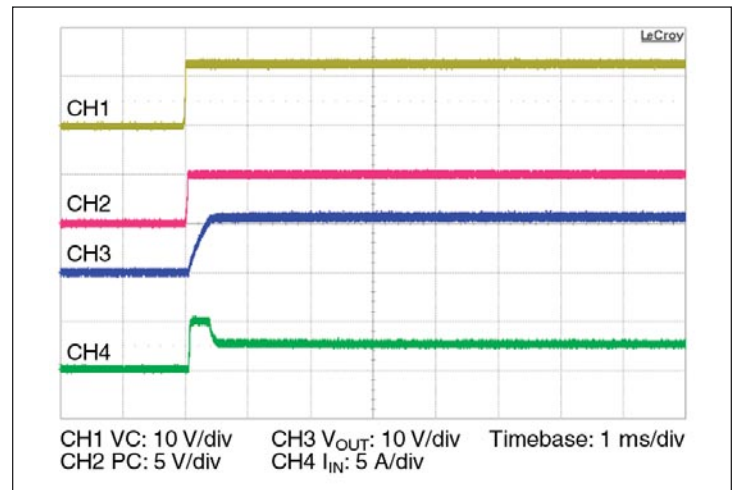

Figure 14 — Start up from application of VC; V_{IN} pre-applied
- Stand Alone Operation (VC applied after V_{IN}): In this case the module output will begin to rise upon the application of the VC voltage (See Figure 14). The Adaptive Soft Start circuit (See Section 10) may vary the output rate of rise in order to limit the inrush current to its maximum level. When starting into high capacitance, or a short, the output current will be limited for a maximum of 900 µsec. After this period, the adaptive soft start circuit will time out and the module may shut down. No restart will be attempted until VC is re-applied, or PC is toggled. The maximum output capacitance is limited to 500 µF in this mode of operation to ensure a successful start.